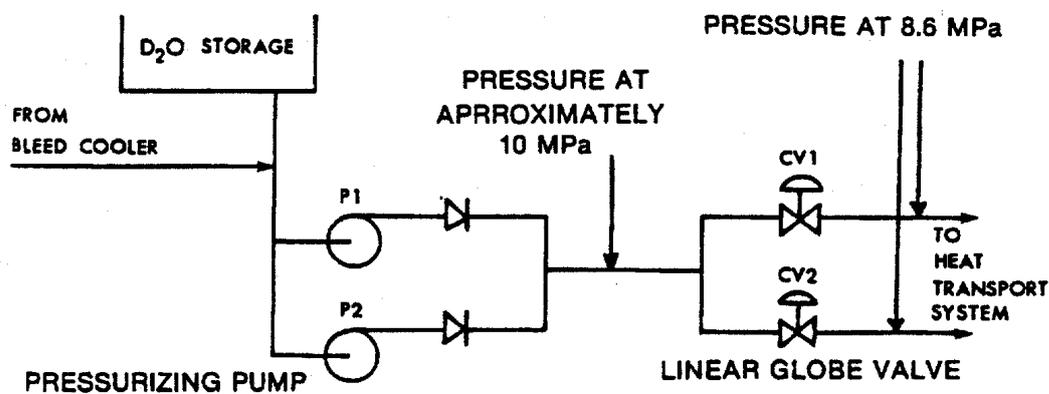

Figure 11 - PHT Linear valve installation
- Linear globe valves are used as **feed valves** to throttle the discharge of the pressurizing pumps (Figure 11).